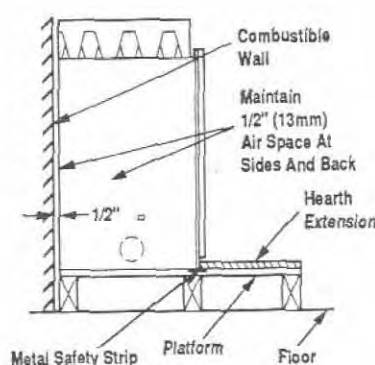

Figure 5
**Step 2.** Insert the metal safety strips, packaged with the fireplace, beneath the fireplace as illustrated (Figures 5 and 6). The safety strips should overlap for continual coverage of the floor.